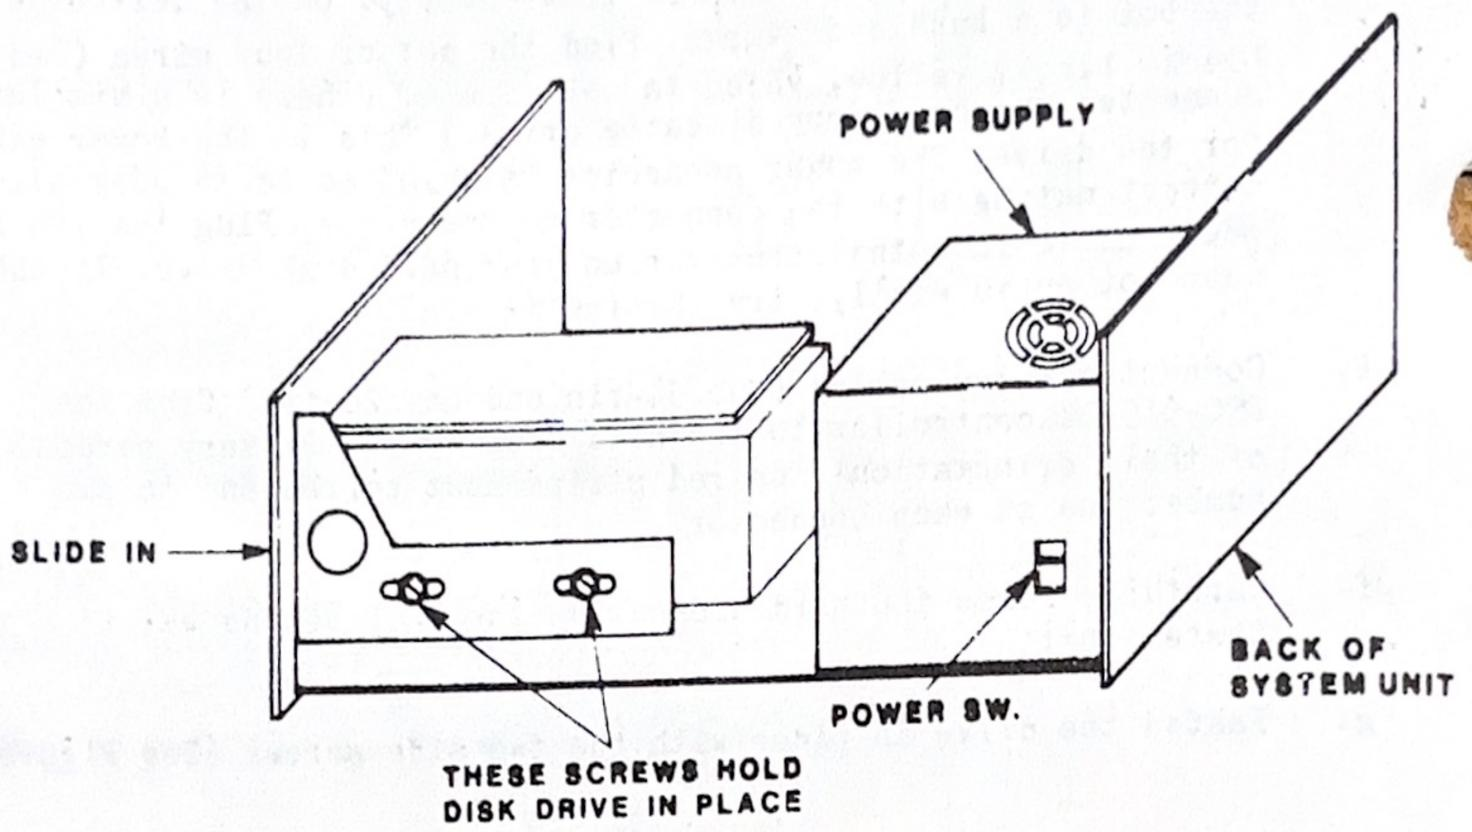

Figure 4. Fastening Internally-Mounted Drive in Place
- a. Remove the two side mounting screws from the right-hand floppy diskette drive (See Figure 4).
- g. Fasten the drive in place with the two side screws (See Figure 4).